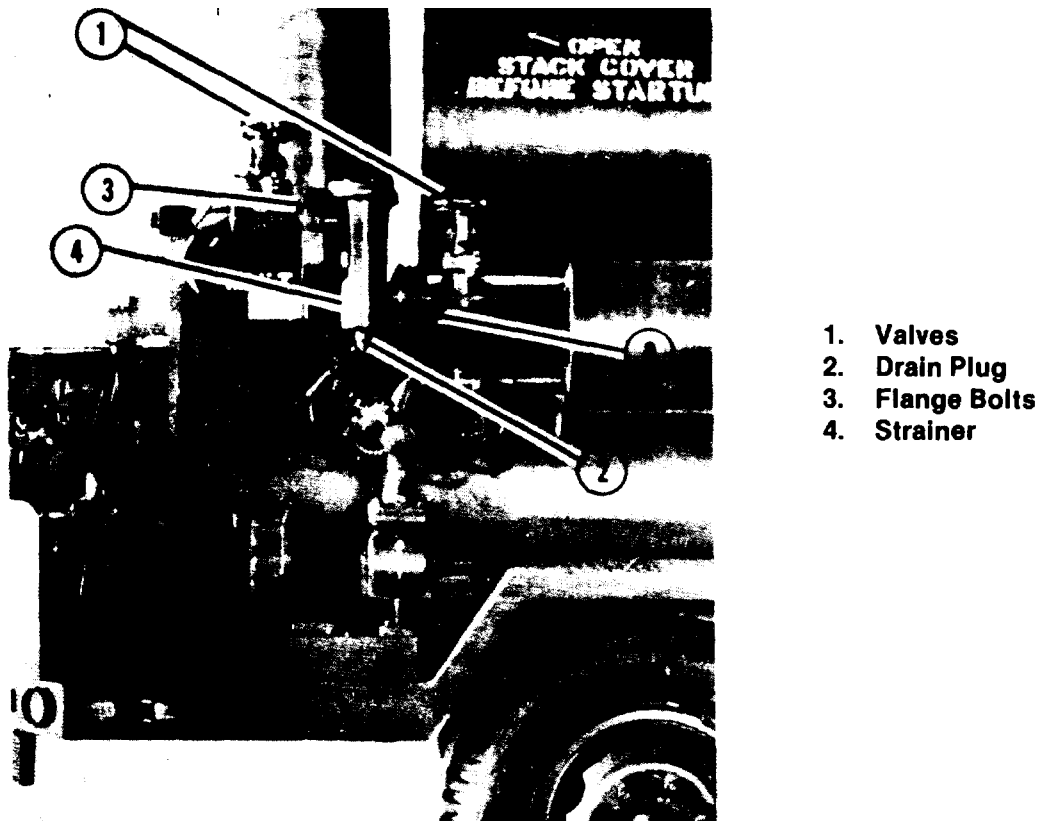

Figure 21. Hot Fluid Strainer Mounting
- a. Removal. Refer to Fig. 21 and remove the hot fluid strainers.